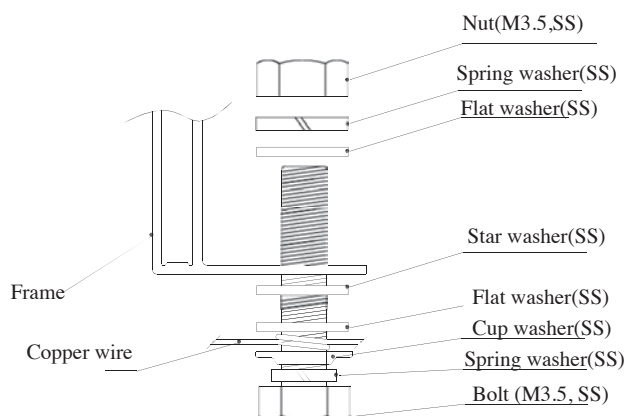

Figure 7
- The grounding bolts must be made of stainless steel and be used in the specified grounding holes. First, make the M3.5 stainless steel bolt pass through the spring washer, flat washer, cup washer (copper conductor with a diameter of 2.1 mm) and star washer, and then insert through the grounding hole, flat washer and spring washer on the frame. Finally, tighten with a M3.5 nut. Caution: The upper limited temperature of the conductor is 85°C. As for the installation, refer to Figure 7